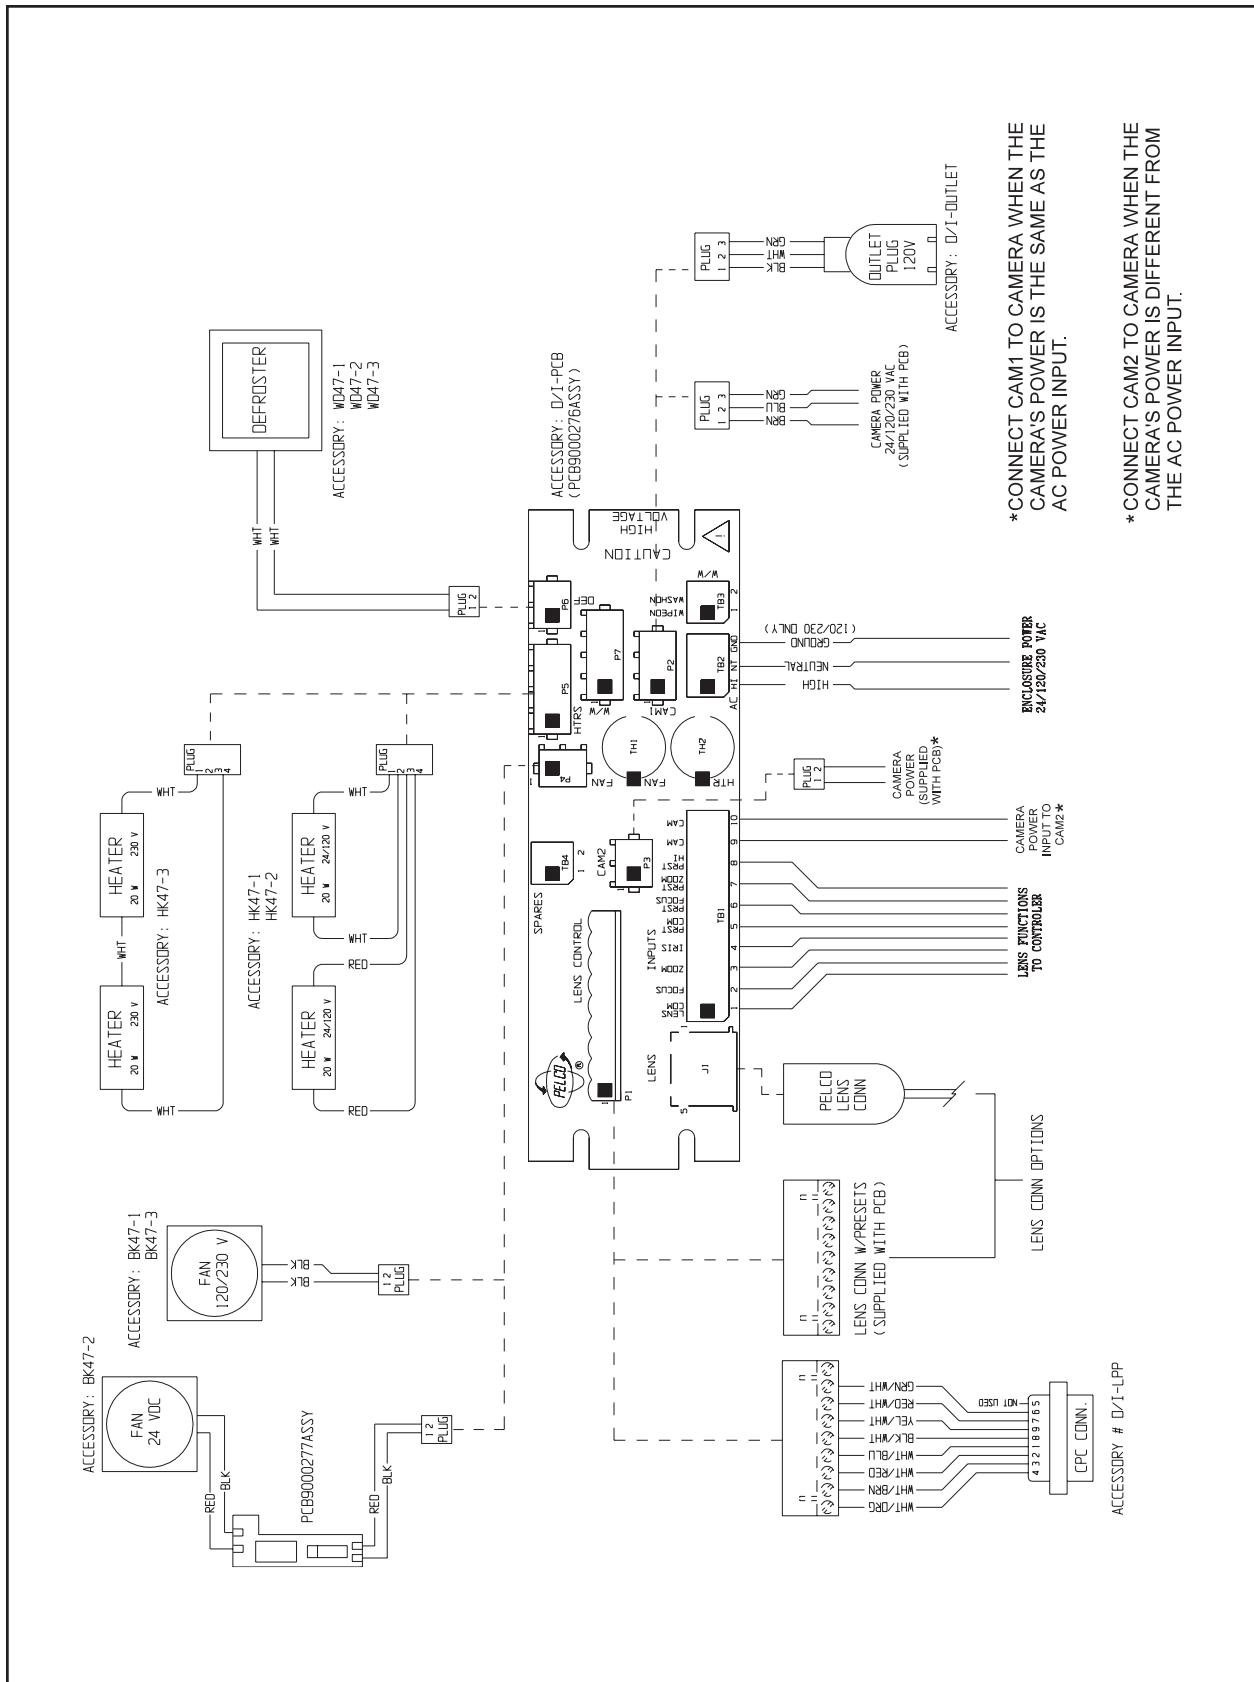

Figure 2. EH4712DB/EH4718DB Series Input Wiring Diagram
3. Bring wires for AC high, AC neutral, and ground into the enclosure. Refer to Figure 2 and connect the wires as follows:
CAUTION: *There are two ways to supply power to the camera: (1) when the power requirements for the camera and enclosure's accessories are the same (for example, if the camera and accessories use 24 VAC) and (2) when the power requirements for the camera and the enclosure's accessories are different (for example, if the camera uses 24 VAC and the accessories use 120 VAC). Refer to Figure 2.*
2. Refer to Figure 2 and connect the wires as follows:
5. Bring wires for AC high, AC neutral, and ground into the enclosure. Refer to Figure 2 and connect the wires as follows:
Models with Heater-Blower (-1/-2/-3) - Refer to Figure 2 and wire the motorized zoom lens control as follows: